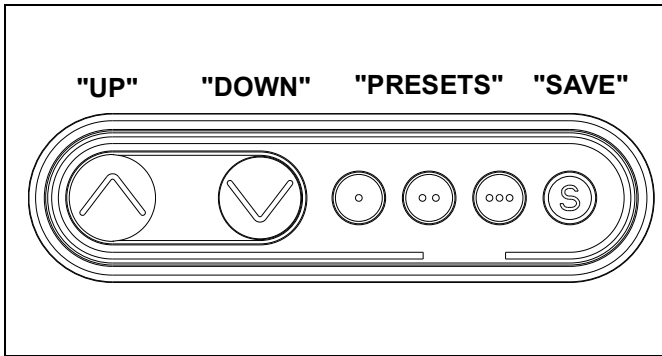

Figure 21
1. Press "UP" or "DOWN" buttons to raise or lower height as desired. (See Figure 21)
1. Adjust height until desired preset level is reached using "UP" and "DOWN" buttons. (See Figure 21)
2. Press "SAVE" button. (See Figure 21)
3. Press one of three preset buttons (., .. or ...) to save preset position. (See Figure 21)